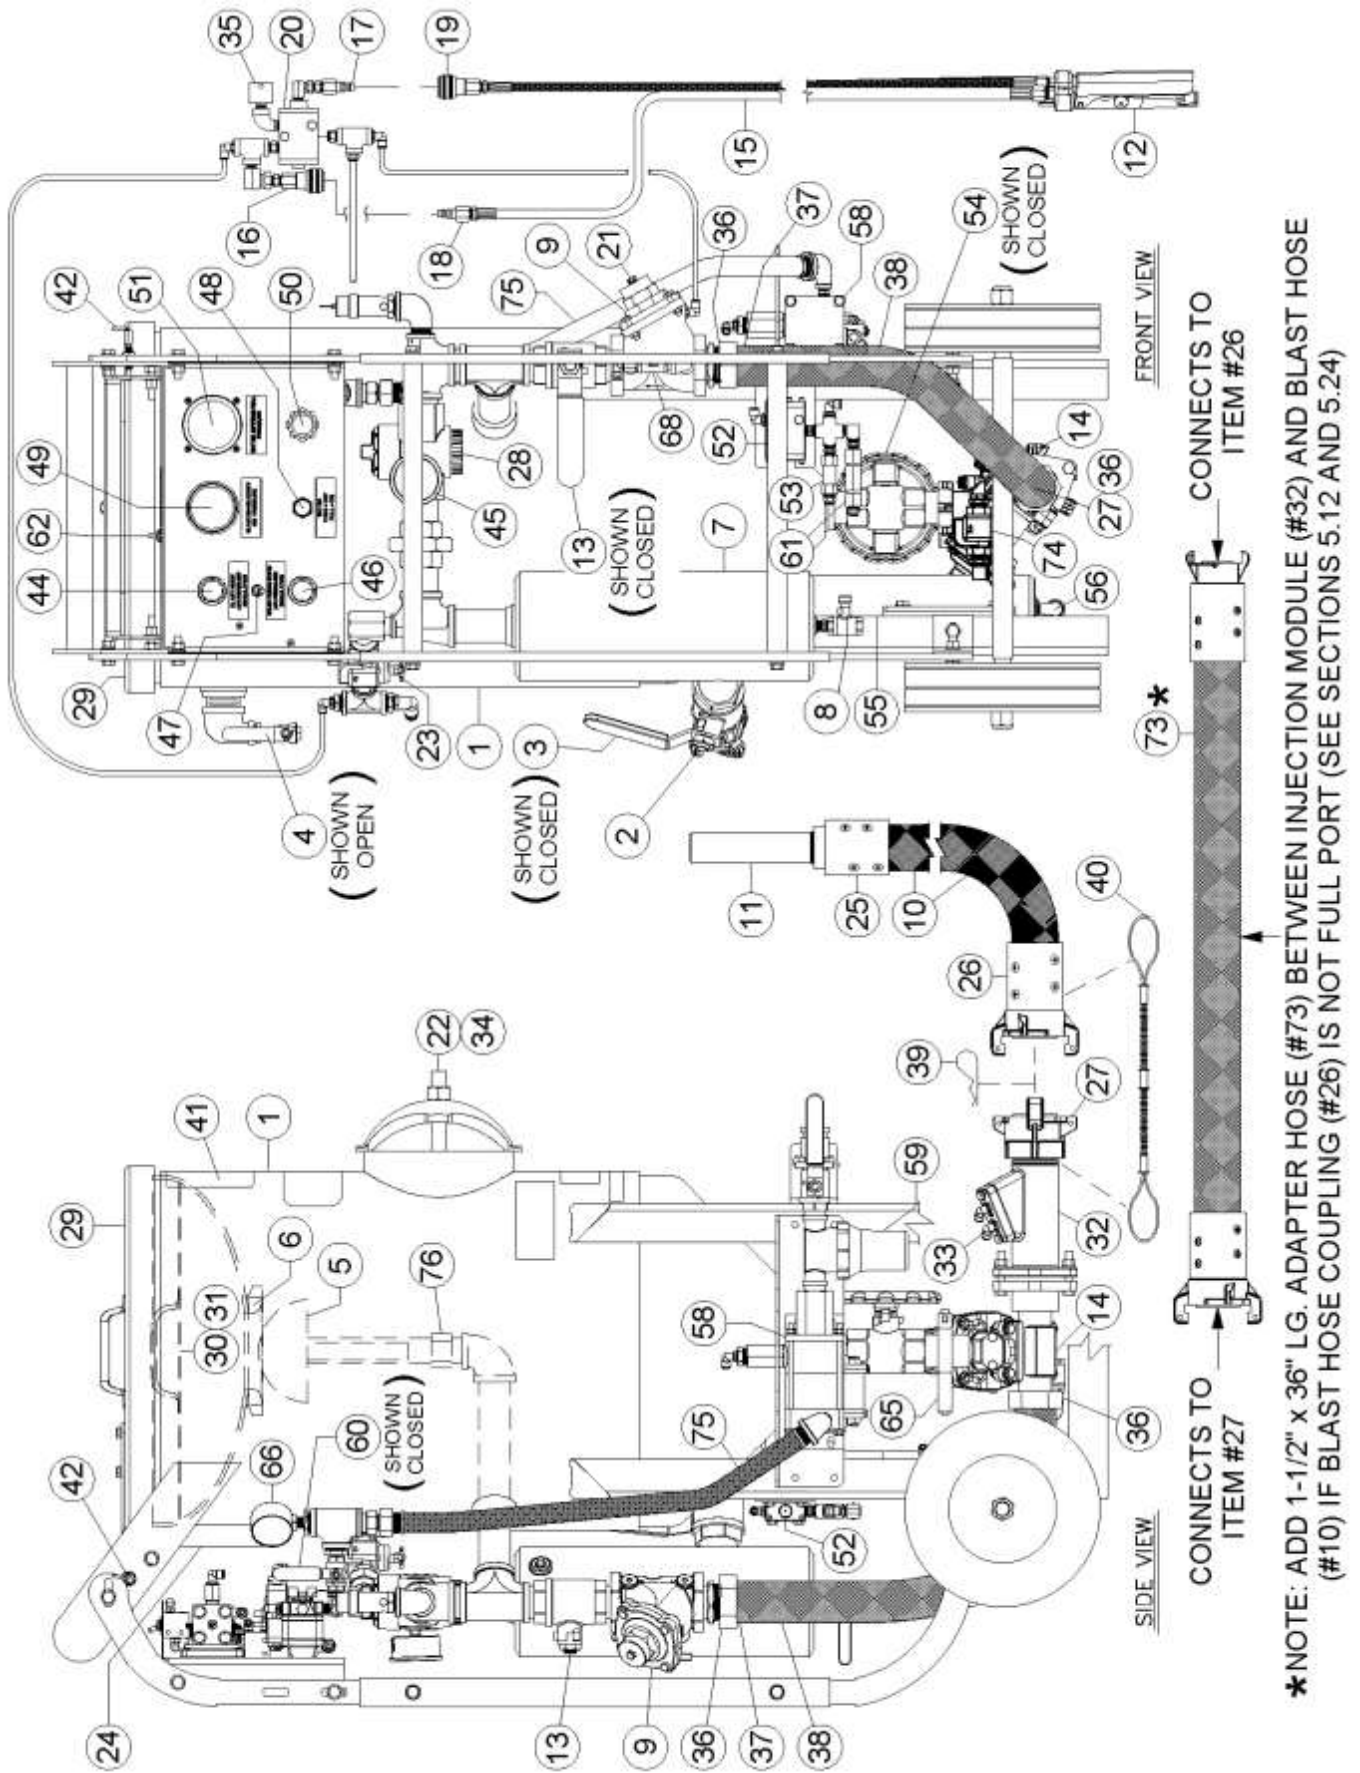

Figure 7.1 – AmphiBlast™ With Pneumatic Blast Controls
- 7.1.2. Open the vessel lid (#29) and remove the screen (#30) to check that the popup (#5) has dropped open. The open popup indicates that the blast vessel is depressurized. See Figure 7.1. **Note:** The hinged lid (#29) includes a spring loaded retractable plunger (#42) that locks the lid in the open or closed position. This prevents the lid from blowing open during transport or slamming shut when loading the vessel with abrasive.
- 7.4.7. Close the blowdown ball valve (#4). The ball valve is closed when the handle is perpendicular to the body (See Figure 7.1).
- 7.5.9. Close the blowdown ball valve (#4). The ball valve is closed when the handle is perpendicular to the body (See Figure 7.1).
- 7.6.9. Close the blowdown ball valve (#4). The ball valve is closed when the handle is perpendicular to the body (See Figure 7.1).